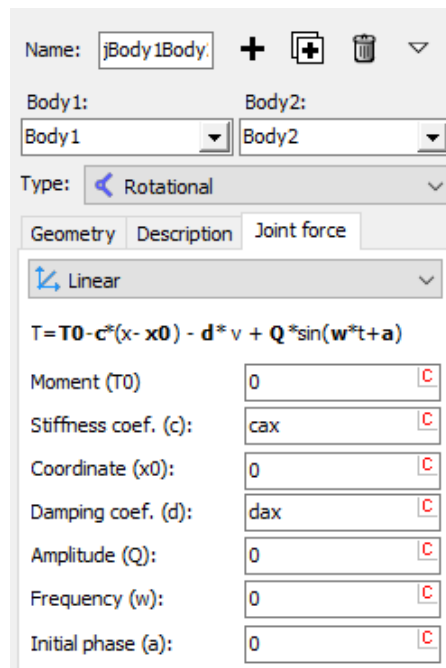

Figure 3.6. Setting the elastic-dissipative force in the joint
6. Go to the **Joint force** tab and select the **Linear** force type. Set **Stiffness coef. (c)** to  $cax$ , and set **Damping coef. (d)** to  $dax$ , Figure 3.6.